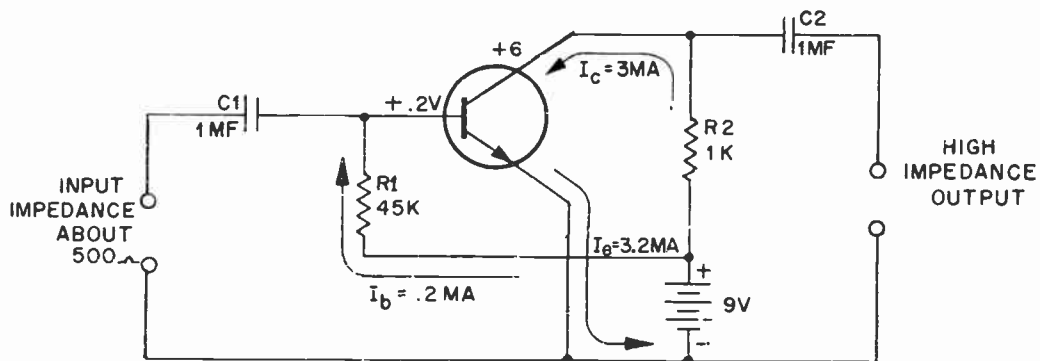

Figure 2. A Simple Transistor Amplifier (NPN).
1. Remove alignment screw and plate. See figure 2.
A typical common emitter NPN transistor amplifier is illustrated by Figure 2. The negative terminal of the power supply battery is connected to the emitter and the positive battery terminal is connected to the collector. Because the collector-base resistance is much higher than the base-emitter resistance as a result of the dc bias polarities, the collector-base voltage can also be much higher than the base-emitter voltage. Resistor R1, connected between the positive battery terminal and the base, establishes the correct dc bias of the base-emitter junction (base positive - emitter negative).
The amplifier shown in Figure 2, is called a common or grounded emitter amplifier because this terminal is common to both the input and output circuits. This type of amplifier circuit roughly corresponds to the familiar grounded cathode vacuum tube amplifier and is frequently used because in general it affords the highest gain consistent with a relatively high input impedance.
In the common emitter transistor amplifier illustrated by Figure 2, a slight change in base current  $I_b$ , results in a large change in the collector current  $I_c$ . This ratio of change in collector current to change in base current is called the Beta ( $\beta$ ). Beta values of presently available junction transistors range from less than 10 to more than 100.